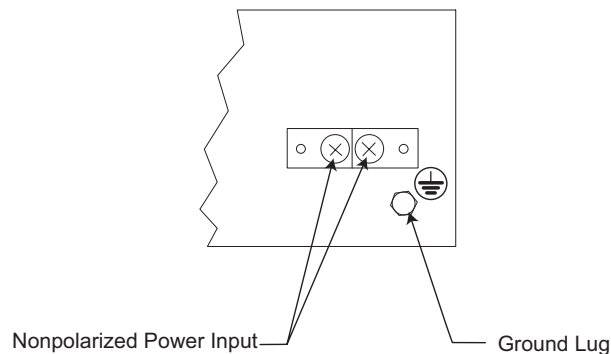

Figure 3-1. Power and Ground Connections
The **DYNASTAR 1500** provides a hardened DC power supply for industrial applications and/or hostile environments. The power supply connector is located on the rear of the unit on the right hand side as shown in **Figure 3-1**. Connect the DC power to the unit as follows.
2. Lift the protective cover from the Power input and loosen the screws on the Power input and the Ground lug bolt beside the nonpolarized power inputs of the **DYNASTAR 1500**, as shown in **Figure 3-1**.
For AC powered units the connections are to the Power input terminals on the rear of the **DYNASTAR 1500** as shown in **Figure 3-1**. Connect AC power to the unit as follows:
2. Lift the protective cover from the Power input and loosen the screws and the Ground lug bolt beside the nonpolarized power inputs of the **DYNASTAR 1500**, as shown in **Figure 3-1**.